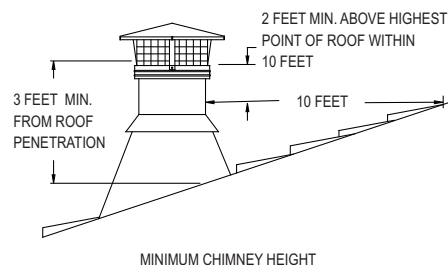
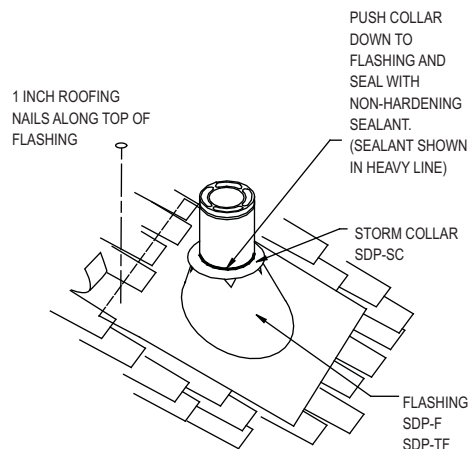

Figure 1
Figure 14
The National Fire Protection Association Standard #211 states: "Chimneys shall extend at least three feet above the highest point where it passes through the roof of a building, and at least two feet higher than any portion of a building within ten feet." (**Figure 1**).
9. Attach Flashing: In new construction, assemble the Chimney Sections to a point above the roof, then slip the Flashing over the chimney. On an existing roof, center and install the Flashing before extending the chimney above the roof. Allow space to permit sliding the next Chimney Section up through the Flashing. Always insure the chimney remains vertical, and that at least a 2-inch clearance to combustible materials is maintained all around. Install the upper edge of the Flashing under the roofing. Nail to the roof along the upper edge and the upper half on each side with 1-inch roofing nails. Do not nail the lower edge of the Flashing, or the lower half of the sides. (**Figure 14**). Seal all nail heads with a non-hardening waterproof sealant. On flat or tarred and graveled roofs, nail and seal the Flat Roof Flashing to the roof on all sides with roofing compound. Do not put screws through the Flashing into the Chimney Pipe.
chimney above the Flashing, and also along the vertical seam of the chimney pipe, which is exposed to the weather. **(Figures 14 and 15)**. Slide the Storm Collar down over the chimney to the top of the Flashing. Tighten and seal the Storm Collar against the sealant. After installing sufficient Chimney Sections to meet the height requirement, **(Figure 1)**, snap the Chimney Cap onto the top of the chimney. The Chimney Cap can be removed for chimney cleaning as described in the Chimney Maintenance section of the instructions. Use an Extended Roof Bracket if the chimney extends more than 4 feet above the roof.